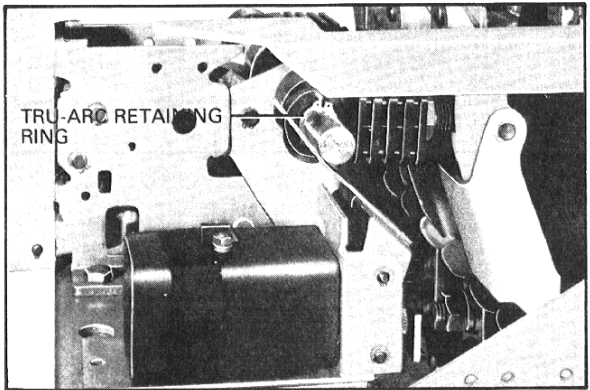

Fig. 6 Positioning of Actuator
- 4. Remove the Tru-arc retaining ring from the right end of the main contact cross bar. Slide 1 (one) cross bar spacer over the bar against the insulator and replace the Tru-arc ring. See Figs. 6 and 8.